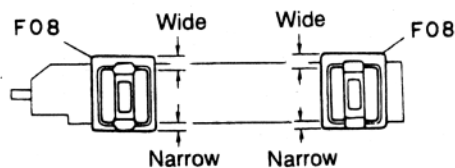

Fig. 2.12.2
- (1) Reassemble F08 (UD S Cam Guide SL) to F07 (Mecha UD Sub Cam SL) as shown in Fig. 2.12.2.
NOTE: Reassemble F08 (UD S Cam Guide SL) so that their wider sides come upper as shown in Fig. 2.12.2.